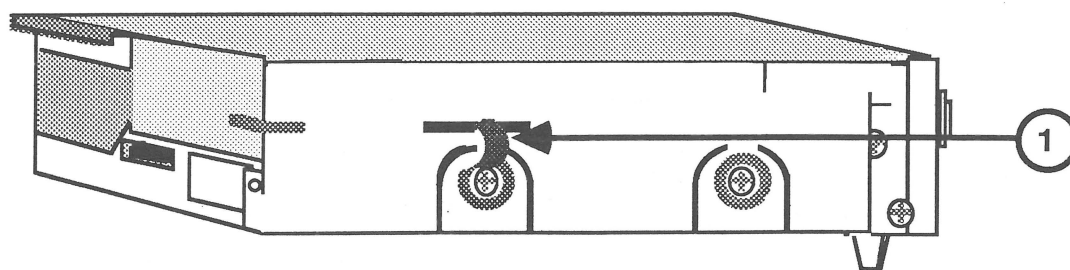

FIGURE 5
6. Replace the shield and corresponding Phillips screws. Make sure the ground clip is installed at the left-front position (Figure 5, #1).